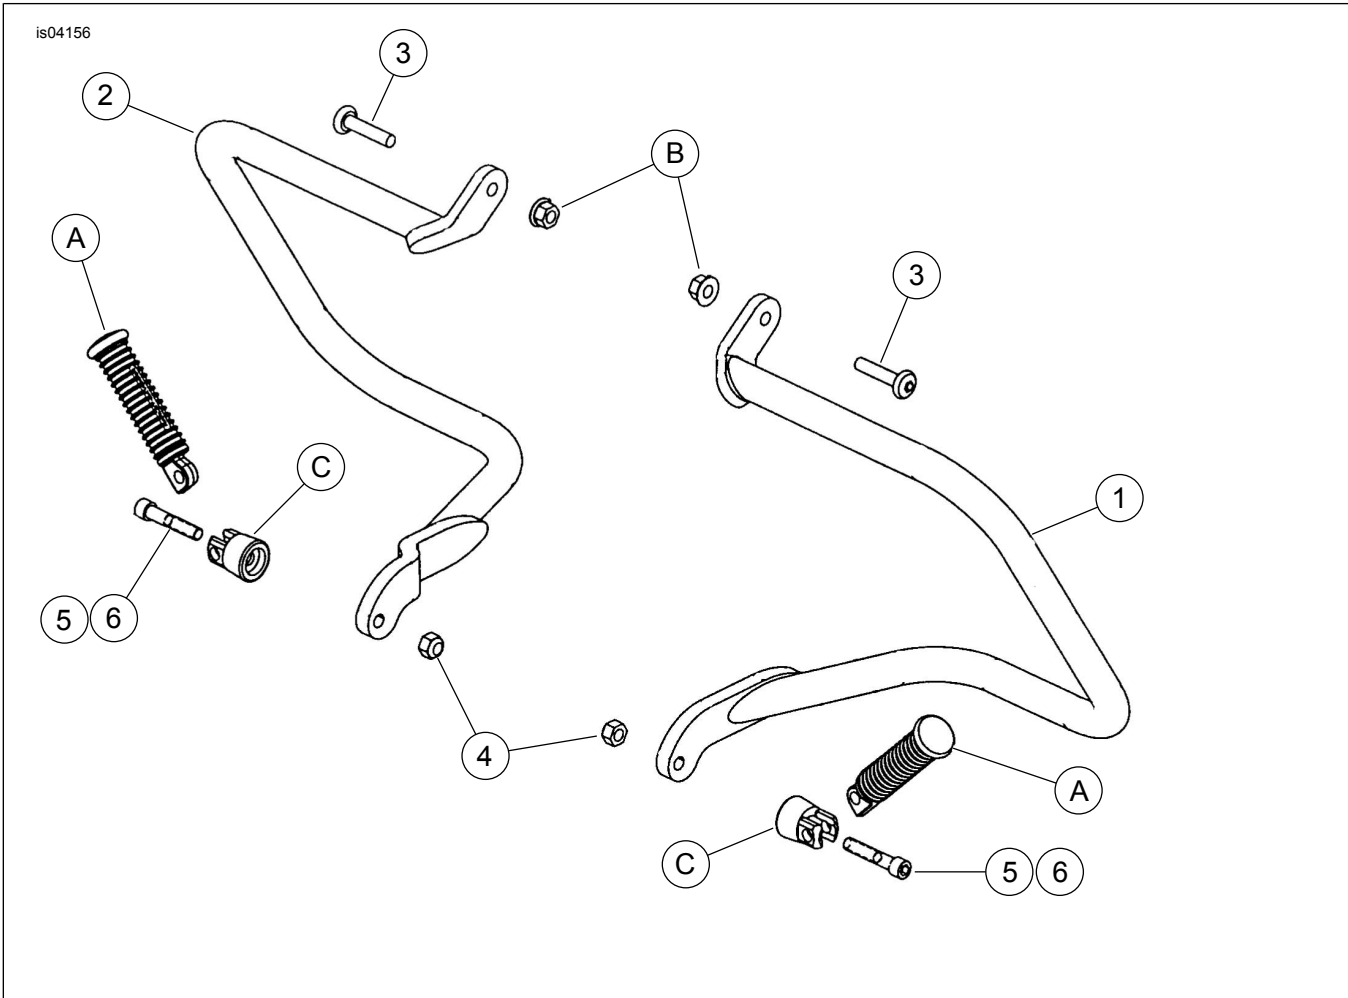

Figure 3. Service Parts: Black Softail Rear Saddlebag Guard
See Figure 3 and Table 1.
6. See Figure 2 and Figure 3. Determine your model application and follow the applicable installation procedure below: **On models with passenger footpeg, but without saddlebag relocation bracket:** Install 3/8-16 x 2-3/4 inch socket head cap screw through footpeg support. Install support to frame. Tighten support bolt to 35-45 ft-lbs (47-61 N-m). Install lower saddlebag guard flange over bolt protruding from inboard surface of frame member. Install 3/8-16 lock nut to end of bolt. Tighten to 35-45 ft-lbs (47-61 N-m). Install footpeg according to Service Manual instructions. **On models with passenger footpeg and saddlebag relocation bracket:** Install 3/8-16 x 2-3/4 inch socket head cap screw through footpeg support. Install support to frame. Tighten support bolt to 35-45 ft-lbs (47-61 N-m). Position saddlebag relocation bracket over bolt. Install lower saddlebag guard flange over bolt protruding from inboard surface of frame member. Install 3/8-16 lock nut to end of bolt. Tighten nut to 35-45 ft-lbs (47-61 N-m). Install footpeg per Service Manual instructions. **On models with passenger footboard with or without toolbox:** Install 3/8-16 x 2-1/4 inch socket head cap screw through passenger footboard mount and toolbox bracket (if equipped). Tighten footboard mounting bolt to 35-45 ft-lbs (47-61 N-m). Position saddlebag relocation bracket over bolt. Install lower saddlebag guard flange over bolt protruding from inboard surface of frame member. Install 3/8-16 lock nut to end of bolt. Tighten nut to 35-45 ft-lbs (47-61 N-m). **On models with passenger footpegs and tool box:** Install 3/8-16 x 2-1/4 inch socket head cap screw, from the inboard side of the motorcycle, through hole in saddlebag guard bottom flange, saddlebag relocation bracket into the the motorcycle frame member. Tighten bolt to 35-45 ft-lbs (47-61 N-m). Install passenger footpeg spacer to the end of the bolt. Tighten footpeg spacer to 35-45 ft-lbs (47-61 N-m). Install passenger footpeg support to end of footpeg spacer. Tighten to 35-45 ft-lbs (47-61 N-m). Install footpeg per Service Manual instructions.